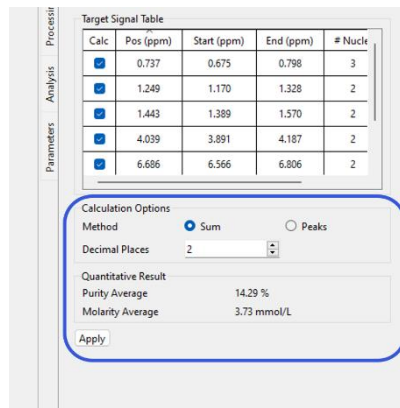

Figure 23: Calculation option on the SMILEQ widget
- After setting the calculation option, press the **“Apply”** button to view the result as shown in Figure 23.
Figure 23 shows the result of a successful quantitative analysis, with the report and parameters tables being added to the canvas.